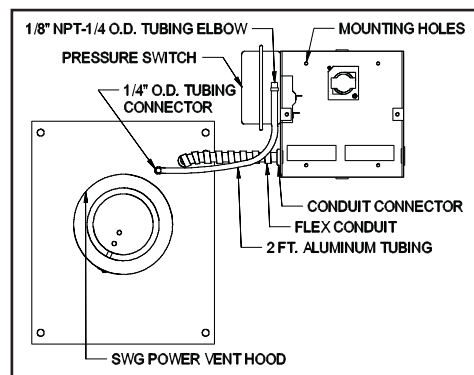

Figure 3
2. Fasten the flexible conduit from the SWG Venter into the conduit connector. Mount the CK-92FV junction box or installer supplied junction box onto the wall or floor joist without straining the flexible conduit. Fasten the CK-92FV junction box through the four dimpled locations on the base of the box. (See Figure 3)
1. Attach the 1/4" tubing connector to the pressure tube on the SWG Venter. (See Figure 3)